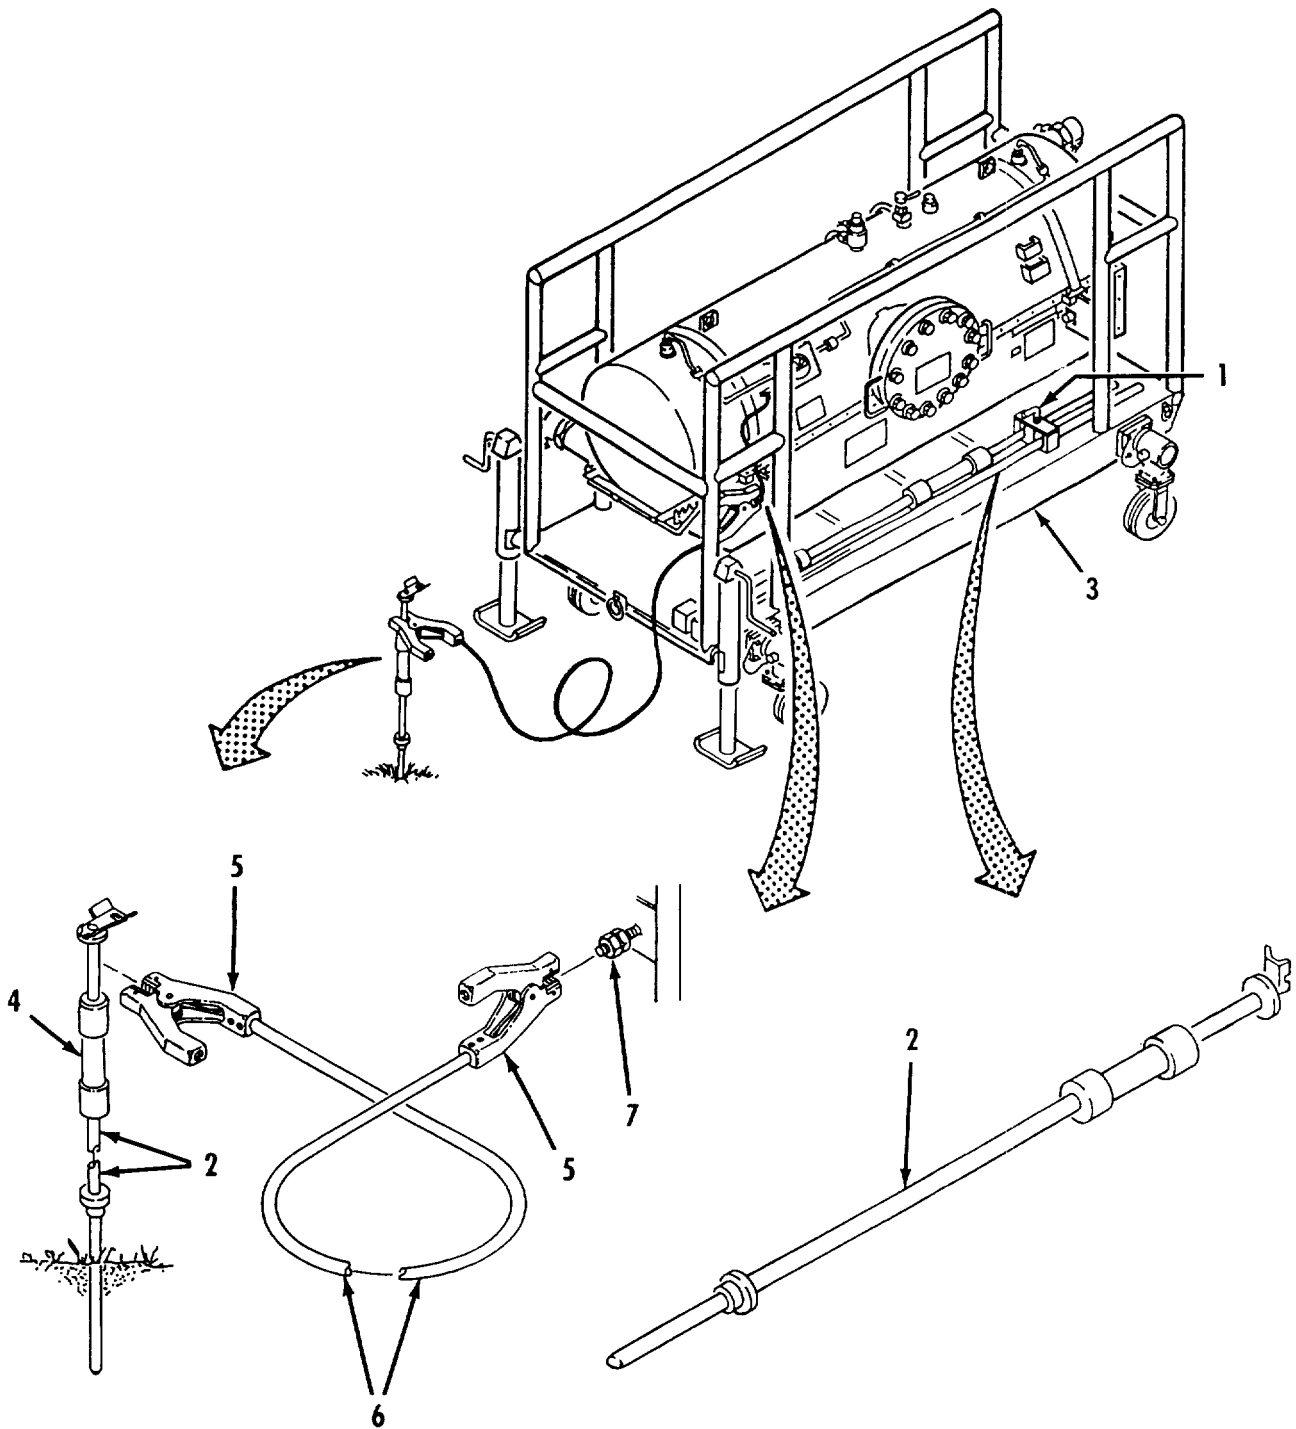

Figure 2-28. 200 GPM Filter-Separator Ground Rod Installation.
- t. 200 GPM Filter-Separator Ground Rod Installation. Refer to figure 2-28.